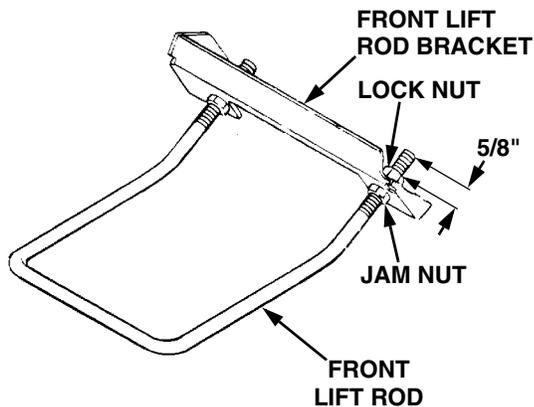

Figure 53
- If making the initial installation of the deck, adjust the front lift rod to allow 5/8 inch of thread to protrude beyond both lock nuts of the front lift rod/bracket assembly (See Figure 53).
- To adjust the downward tilt of the blades, adjustment of the front lift rod is required. Refer to Figure 53 and proceed as follows: